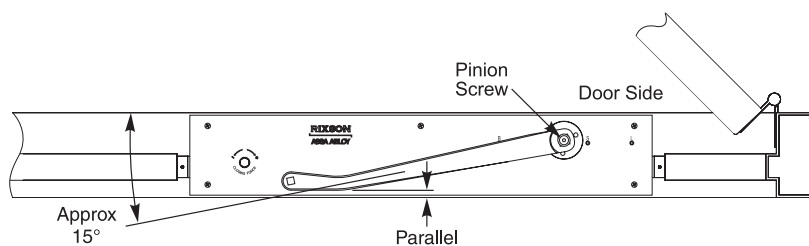

Figure 5
1. Using provided  $5/32"$  hex wrench and  $1/4-20 \times 3/4"$  Allen Drive with Patch screw and washer, attach arm to closer spindle. (Figure 5)